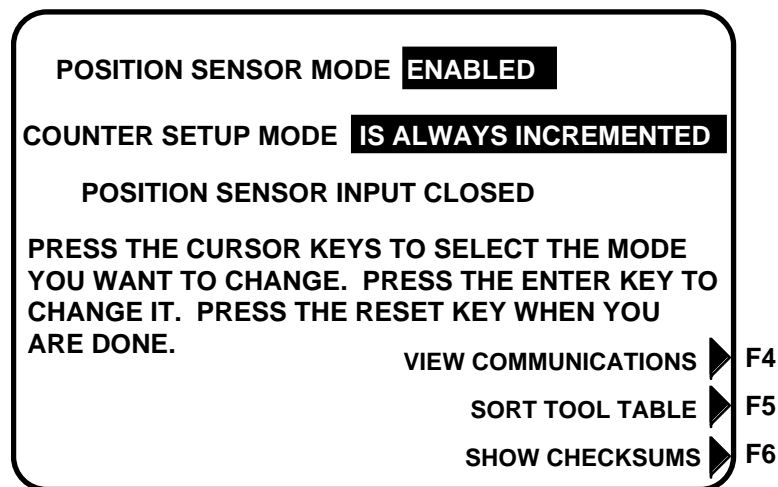

Figure 2-19. Enabling position sensor
4. Now return to Initialization mode and re-select "Position sensor" (Figure 2-19). Check the number in the LED display. This is the "unzeroed" resolver position. This value must be 0° ±2 degrees before the position sensor can be installed. If it is not 0° ±2 degrees, take note of the unzeroed position, and go back to the Run mode. Inch the press to 360° minus the unzeroed resolver position. Return to Initialization and re-select "Position sensor". Verify that the unzeroed position is now 0° ±2 degrees. (Note: The number appearing in Initialization may be different from the angle position that you saw in Run mode (*that is the "corrected", zeroed resolver position*)).